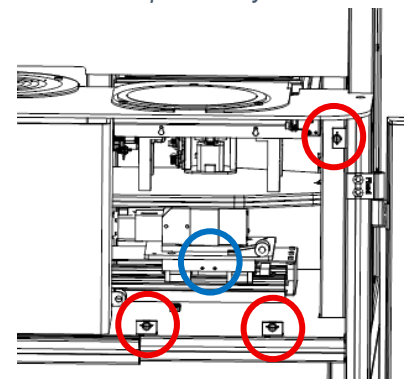

Figure 9 Platen Access
3. Open the front doors of the equipment and locate the clear panel on the right side that allows you to access the platens. See Figure 9.
4. Using a flat head screwdriver, turn the three fasteners (shown in red circles in Figure 9) that hold the window on 90°, and then pull to remove the panel.
5. Locate the locking bracket (shown in blue circle in Figure 9) for the lower debonder platen, remove the 4 bolts using a 2.5mm allen key, and discard.